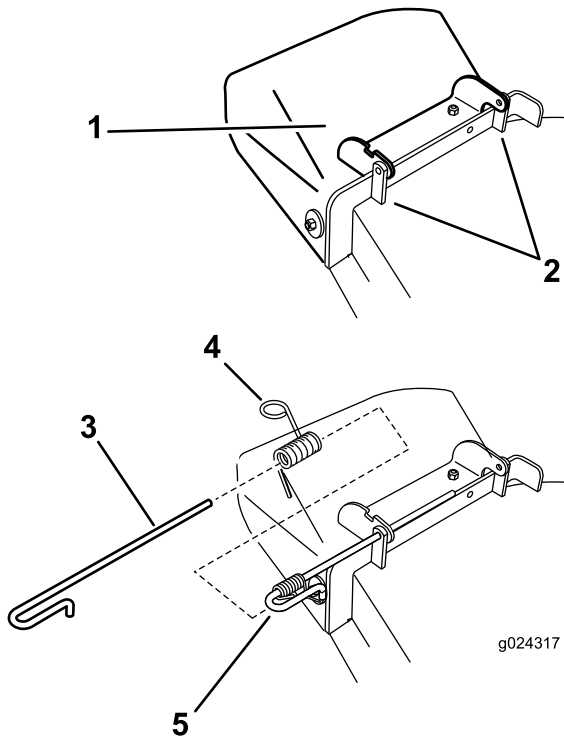

Figure 70
1. Disengage the spring from the notch in the deflector bracket and slide the rod out of the welded deck brackets, spring, and discharge deflector (Figure 70).
3. Position the new discharge deflector assembly with the bracket ends between the welded brackets on the deck as shown in Figure 70.